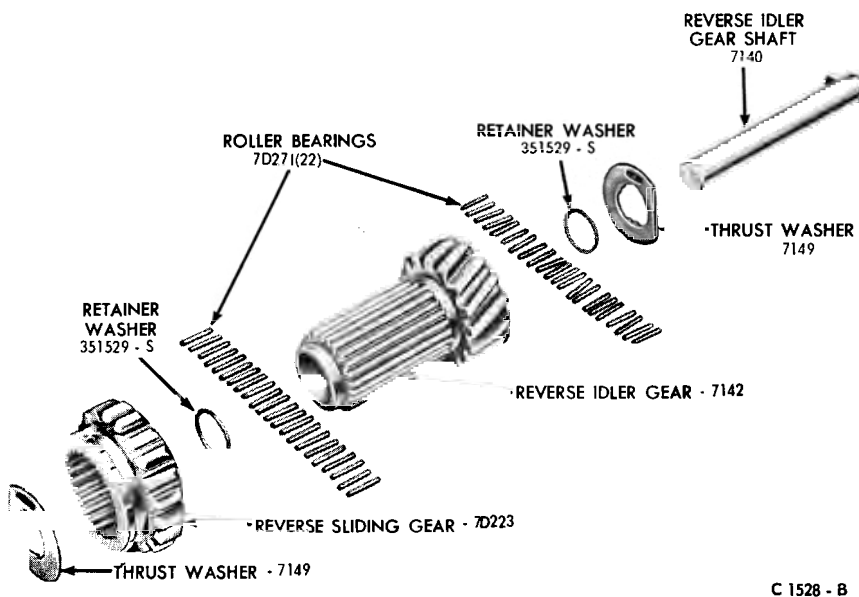

FIG. 18—Reverse Idler Gear Disassembled
1. Slip the reverse idler sliding gear off of the reverse idler gear (Fig. 18).
5. Install the reverse idler sliding gear on the reverse idler gear making sure that the shift fork groove is toward the front (Fig. 18).
6. Coat the reverse idler gear thrust surfaces in the case with a thin film of lubricant and position the two thrust washers (Fig. 18) in place.